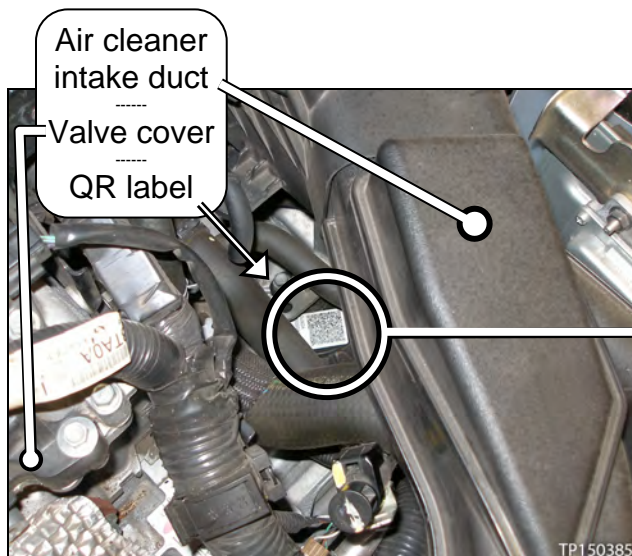
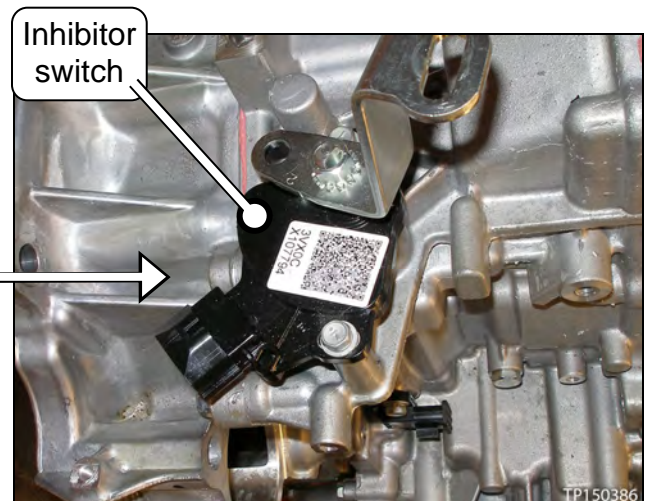

Figure 14J
Figure 15J
- See Figure 14J and Figure 15J below.